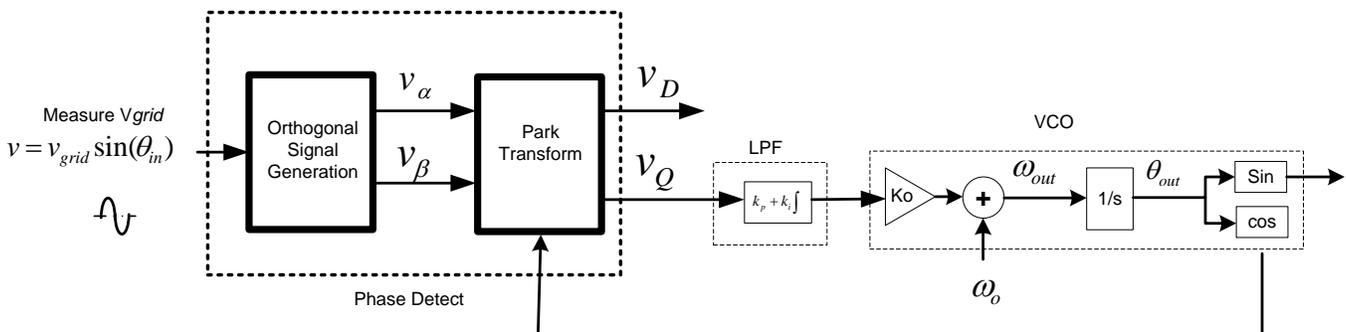

Figure 10. Inverter PLL Control
The inverter uses a phase locked loop (PLL) to synchronize its output current to the grid voltage. A functional diagram of a PLL is shown in Figure 10, which consists of a phase detect (PD) consisting of park transform, a loop filter (LPF), and a voltage controlled oscillator(VCO).